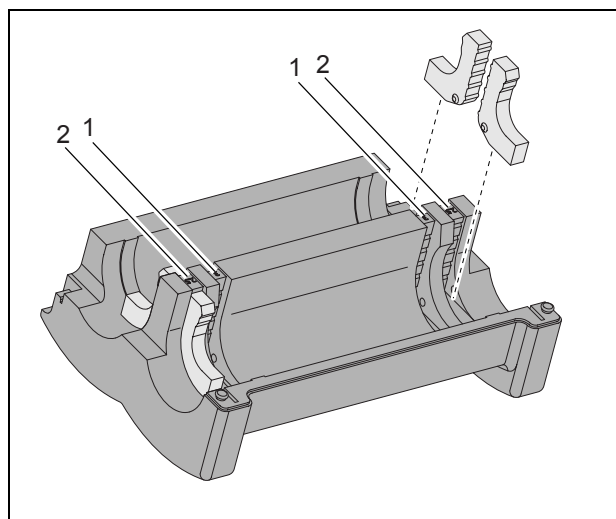

Fig. 10 Inner insulation
- For 2½" and 3" low loss header: install the inserts in the outer insulation. For a 2½" low loss header: install the reducing inserts in the outer recesses (fig. 10, item 2). For a 3" low loss header: install the reducing inserts in the inner groves (fig. 10, item 1).